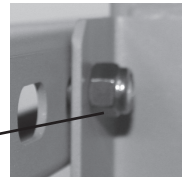

Figure 13
2. Place the 3/8" Washer over the Mounting Bar Hole at Position 1a, and put the 1" Bolt through the Washer and Mounting Bar, to secure the Washer in place (Figure 12). From the back side attach the 3/8" Lock Nut and secure tightly (Figure 13). Repeat steps at Position 1b, to complete installation of the top Mounting Bar.